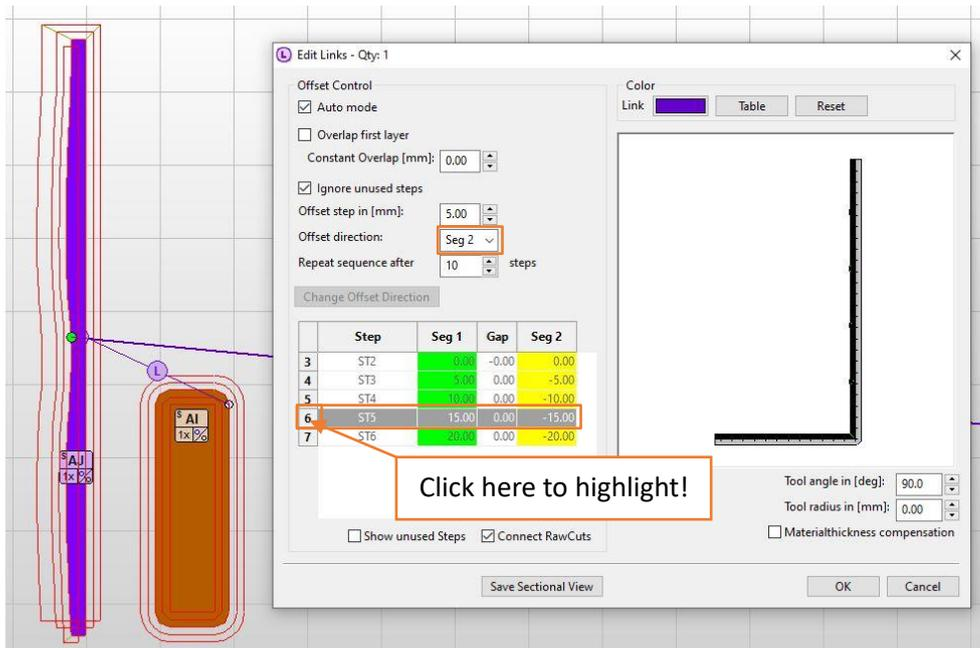

Figure 319
113. As the warning states the problem occurred at position 6 (Figure 319). Now we have following options to avoid that our RawCut of position 6/ST5 disappears completely.
- b. Thus, it is suggested to change the **[Offset direction]** from 'both' to 'Seg2' instead. By clicking on the position 6 label (Figure 319) the cuts generate at this step are highlighted. Nevertheless, we will recognize that there is still no cut appearing now, thus we also need to modify the link of the second segment on the left as well.